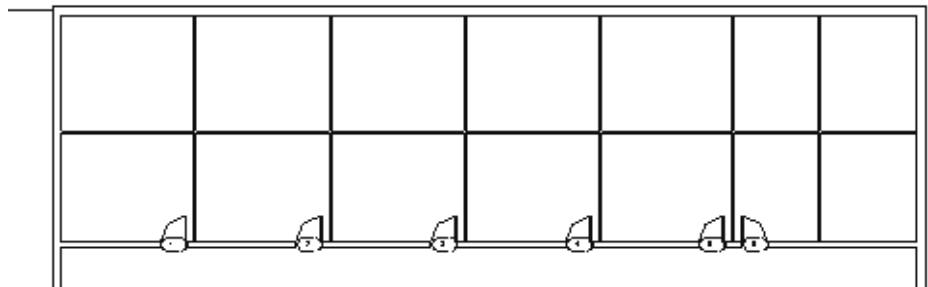

Figure 2-73
- Click  (Modify) and select the new horizontal wall that was created from the exterior wall. Change the wall to **Basic Wall: Interior - 3 1/8" Partition (1-hr)**. The layout of the new walls should display as shown in Figure 2-73.